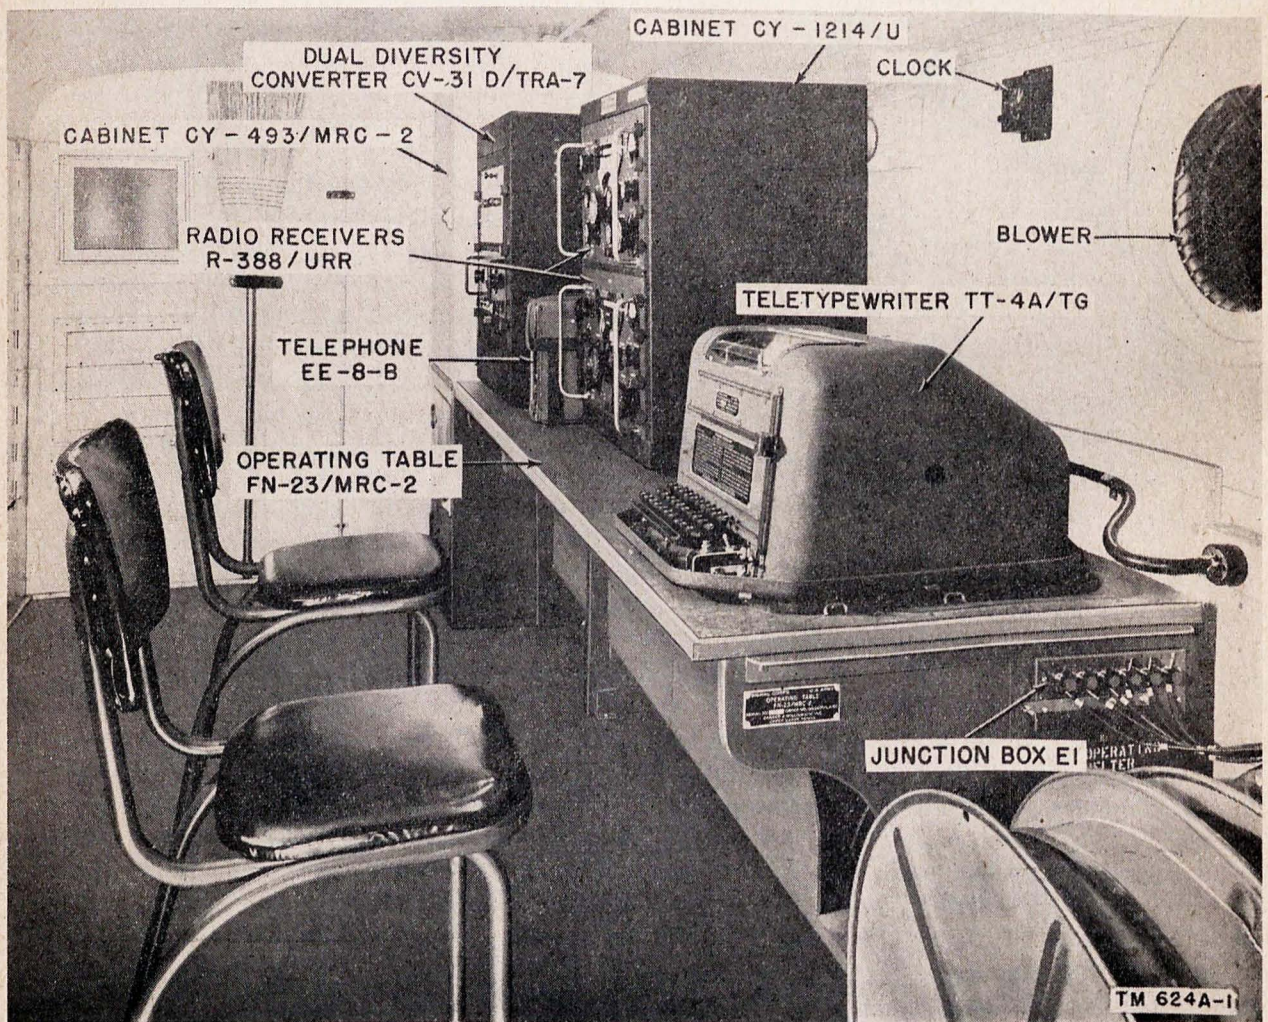
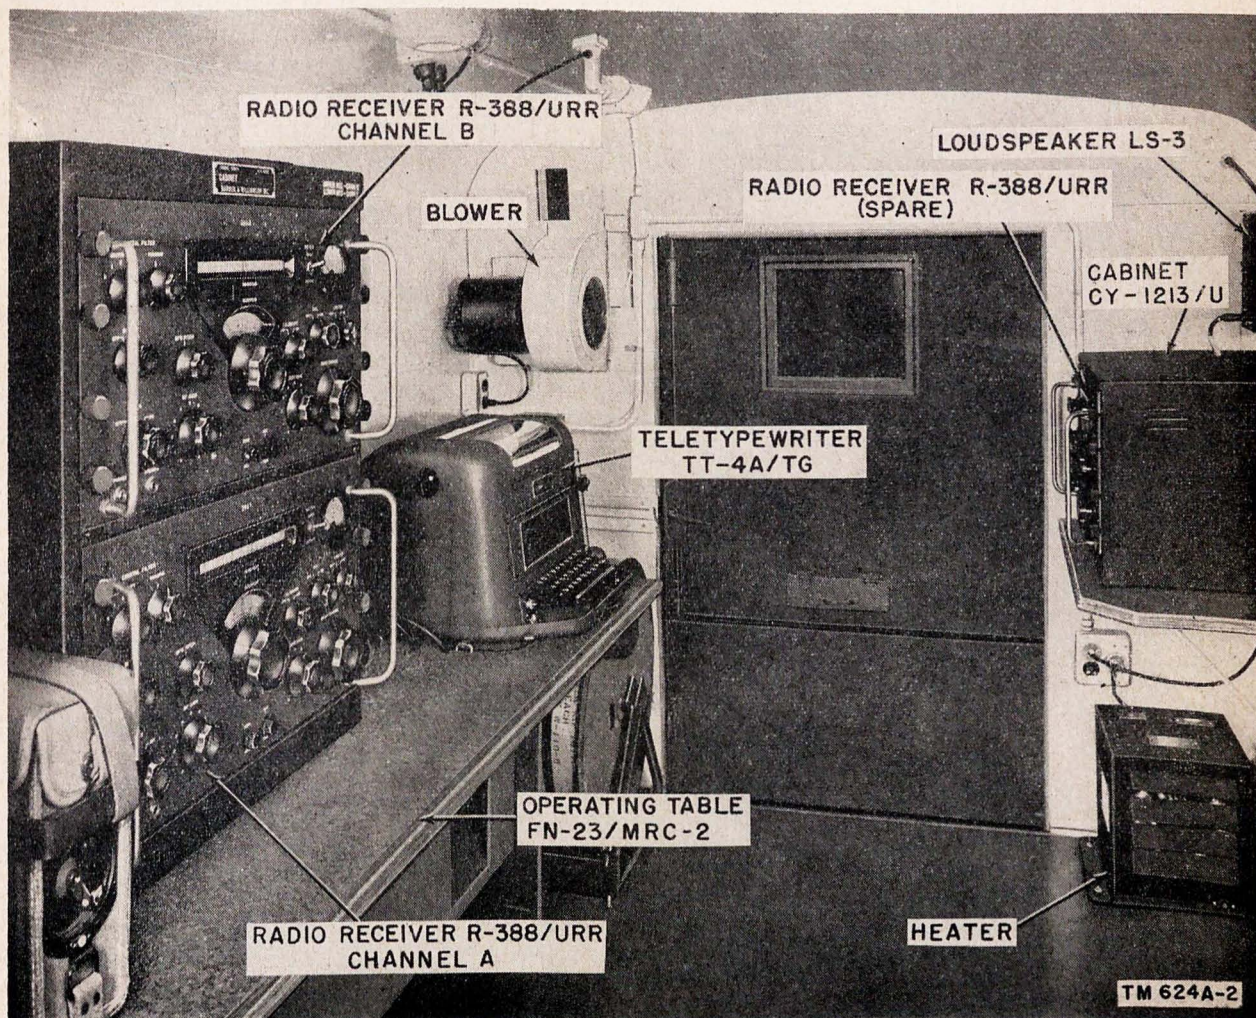

Figure 12. Radio Set AN/MRC-2(\*), interior view of front of receiving shelter.
Figure 13. Radio Set AN/MRC-2(\*), interior view of rear of receiving shelter.
The receiving shelter houses the equipment necessary for the reception of radioteletype signals. The receivers operate in conjunction with two doublet receiving antennas spaced approximately 3 wave lengths or 1,000 feet apart to provide space diversity reception. The following is a general description of the receiving shelter and of components housed within it (figs. 12 and 13). A complete list of components is furnished in the appendix.
*c. Radio Receiver R-388/URR.* Two Radio Receivers R-388/URR, identical with the receiver located in the transmitting shelter (par. 8e), are placed one above the other in Cabinet CY-1214/U on the operating table (fig. 12). For identification purposes, the bottom receiver is designated as channel A and the top receiver as channel B. The receiver assembly is used for the reception of cw, amplitude-modulated (am) voice, and dual diversity frequency-shift teletypewriter signals. A third Radio Receiver R-388/U, mounted in Cabinet CY-1213/U and located on a shelf by the rear door (fig. 13) is maintained as a spare or is used as a monitor of channels other than the operating channel.
d. *Dual Diversity Converter CV-31D/TRA-7* (fig. 12). Dual Diversity Converter CV-31D/TRA-7 is made up of Rectifier Power Unit PP-193A/TRA-7, Oscillator 0-41A/TRA-7, and a dual diversity converter unit. All three are assembled on a single chassis and mounted in a metal cabinet. The cabinet is equipped with shock mounts and is located on the operating table. The dual diversity converter provides polar and neutral dc pulses for operating teletypewriters.
e. *Teletypewriter TT-4A/TG* (fig. 12). Teletypewriter TT-4A/TG is a standard communication, page-printing teletypewriter capable of sending and receiving printed messages. The unit is constructed mostly of magnesium alloys, and has an olive-drab crackle finish. The teletypewriter
f. *Operating Table FN-23/MRC-2*. Operating Table FN-23/MRC-2 extends along the curbside wall of the receiving shelter (fig. 12). Compartments are provided underneath the table for storing extra rolls of paper for the teletypewriter. Built into the table, and considered a part of it, are various jack panels and connectors. These consist of the following:
- (1) *Shelter junction box E1*. Junction box E1, mounted on the front end of the operating table below the removable end section, provides binding post connections for three pairs of wire lines from the operating shelter. One pair of binding posts is for the telephone lines,
g. *Cabinet CY-493/MRC-2.* Cabinet CY-493/MRC-2 is installed between the operating table and the front wall of the shelter (fig. 12). The contents of this cabinet (tools, spare parts, and operating accessories) are listed under Cabinet CY-493/MRC-2 in the table of components in the appendix.
which contains the channel A and channel B receivers. A third Loudspeaker LS-3 is secured to the roadside wall of the shelter directly above the spare radio receiver (fig. 13, par. 8q).
- (2) *Telephone EE-8-B.* In the receiving shelter, this telephone is mounted in a bracket between the dual diversity converter and the channel A and channel B receiver assembly (fig. 12, par. 8s).
- (3) *Headset HS-30-U.* Refer to paragraph 8t for a description of the headset.
- (4) *Multimeter TS-297/U.* Refer to paragraph 8w for a description of the multimeter.
- (5) *Clock.* This clock is located on the curbside wall above the operating table (fig. 12, par. 8x).
- (6) *Heater* (fig. 13). Refer to paragraph 8y for a description of the heater.
- (7) *Blower.* Refer to paragraph 8z for a description of the blower.
- (8) *Fire extinguisher.* The fire extinguisher is mounted on the roadside wall, at the rear of the shelter. (par. 8aa).